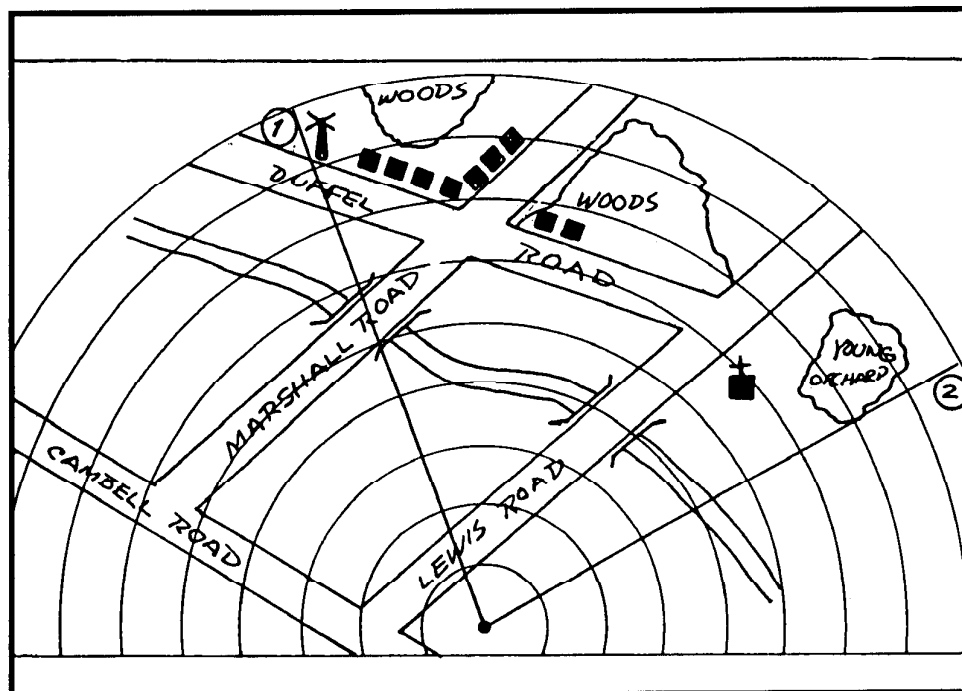

Figure E-3. Labeling sector of fire.
b. Draw lines from the weapon position (indicated by the black dot at lower center of range card) to show the right and left limits. Place a number 1 at the end of the left limit line and draw a circle around the number. Place a number 2 at the end of the right limit line and draw a circle around the number (Figure E-3, page E-4).